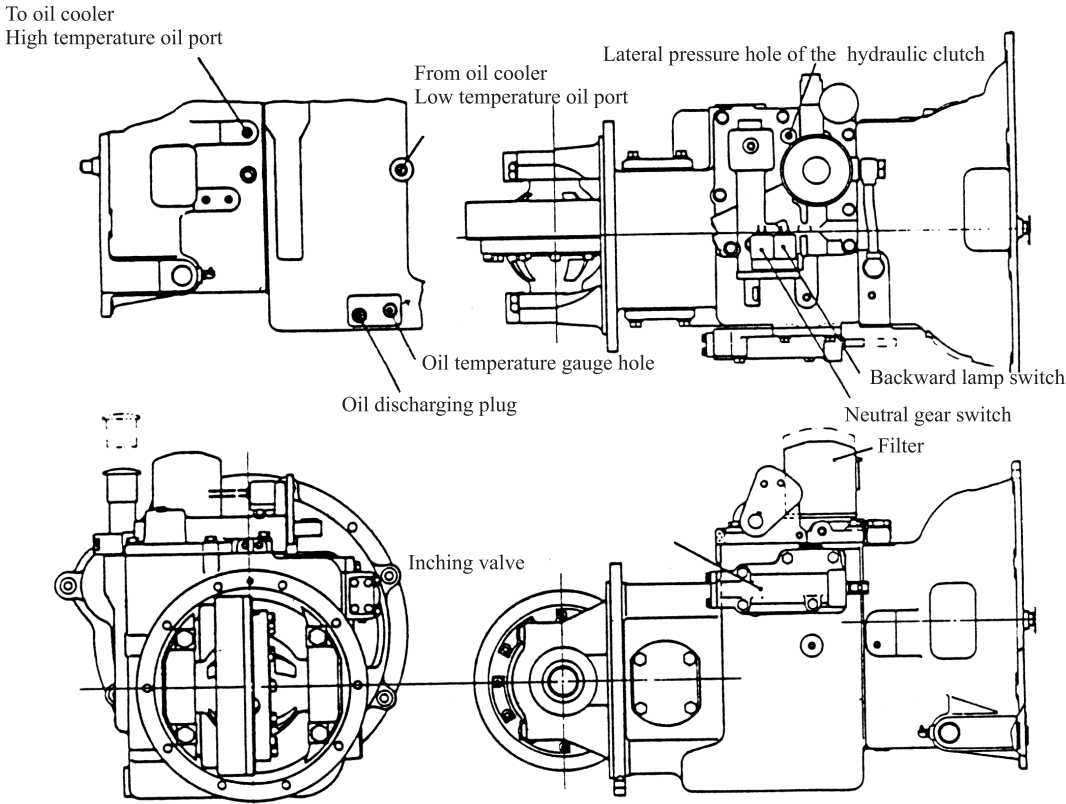

Fig.4-8 Reduction gear and differential
4.8 Reduction Gear & Differential (See Fig.4-8)
- (1) Remove the half -shaft from the front wheel.
- (2) Shift lever should be placed in the neutral.
4.10 Positions of Connection Ports for Hydraulic Oil (See Fig.4-8)